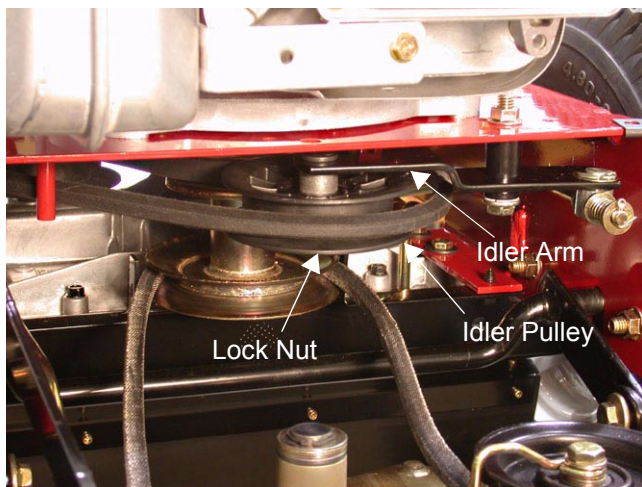

Figure 59
- 15.2. Using a 9/16 inch socket remove the lock nut securing the idler pulley to the idler arm. See Figure 59.